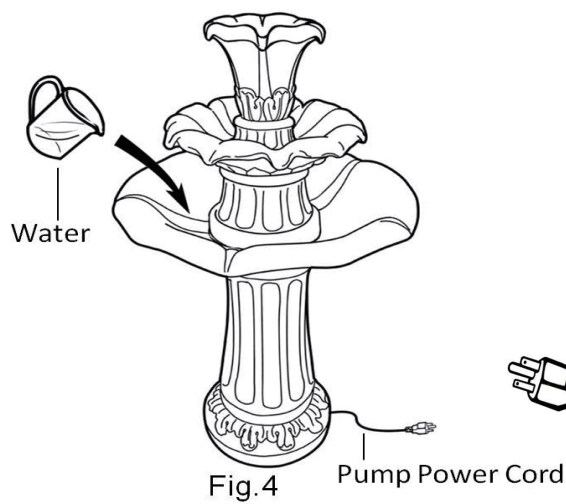

Fig. 4
6. Add clean water into the fountain bottom. The required water level should be approximately 1 in. / 25 mm lower than the hole of the fountain bottom . Connect the Insert pump to a GFCI outlet and the product will begin to function as intended. (Fig. 4)